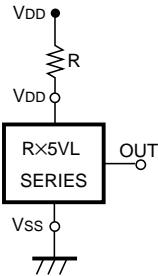

FIG.8
1. When Rx5VLxC (CMOS Output) is used in FIG. 8, this IC may oscillate by the through-type current at the detection when impedance is connected between Power Source VDD and Rx5VL VDD Pin. When Rx5VLxA (Nch Open Drain Output) is used in FIG. 8, and R becomes excessively large, Detector Threshold may be varied because of the voltage drop of the supply current in the IC itself.